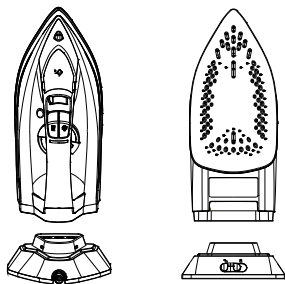

Figure 3
3. **WAIT** until the Indicator Light turns solid green; the iron is ready for use. Hold iron by the handle and remove from the base (Figure 3).